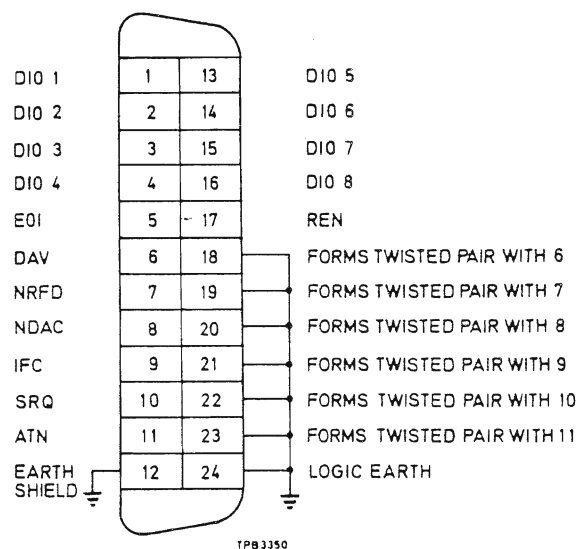

Fig. 4 GPIB connector contact assignments
11. The contact assignment of the GPIB cable connector and the device connector is as shown in Fig. 4 below.